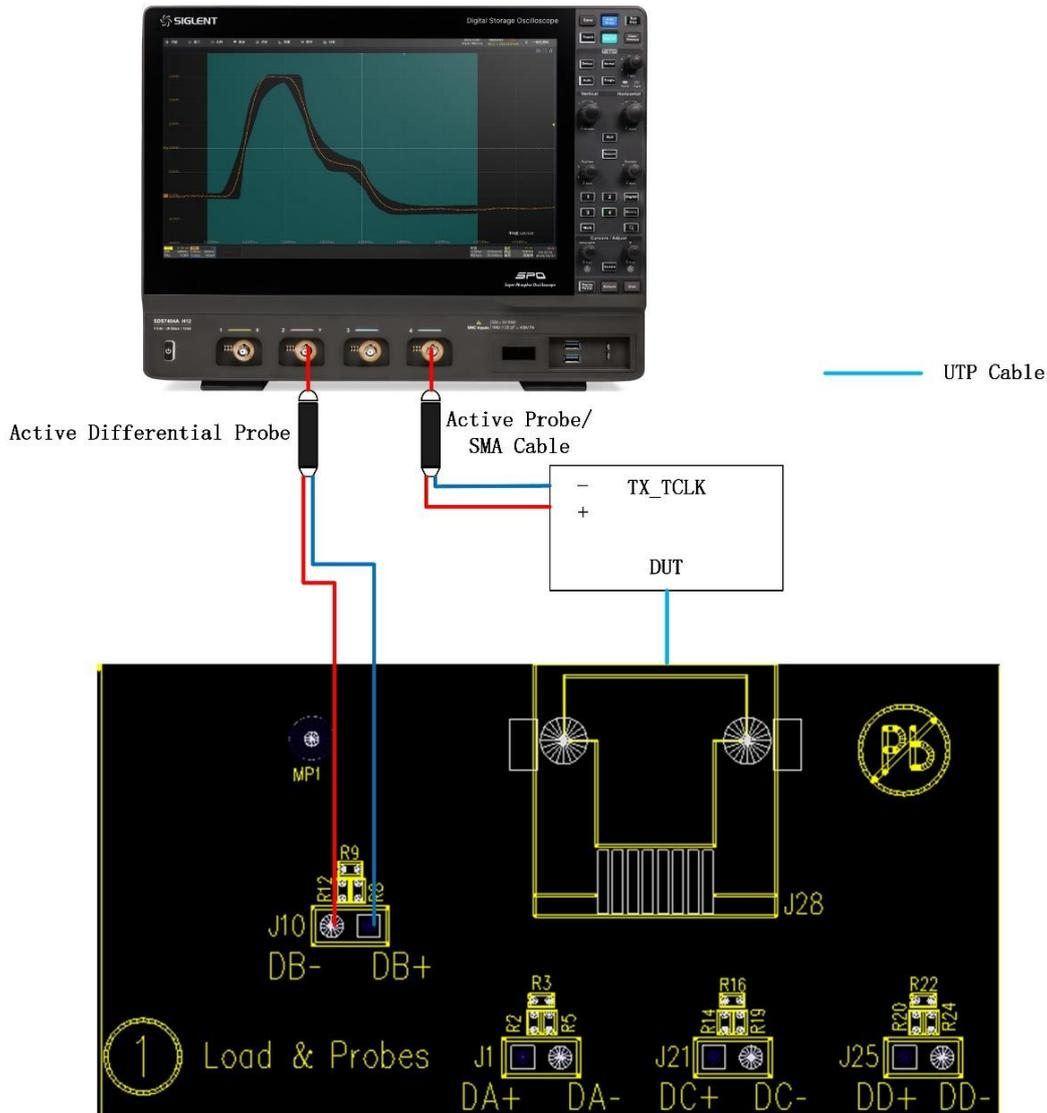

Figure 10-7 Connection of Section ① on test fixture for Slave Mode JTXOUT test
The connection with section ① on the test fixture which supports a differential active probe to probe the MDI signal, which is shown as Figure 10-7, the test step is as follows:
- (1) Use a short UTP cable to connect the DUT to J28 connector on section ① of the test fixture.
- (2) Use an active differential probe to probe test point (J1, J10, J21, J25) on section ① of the test fixture according to the signal pair being tested {(DA+, DA-), (DB+, DB-), (DC+, DC-), (DD+, DD-)}. Ensure correct polarity of the probe head.
- (3) Connect the DUT's TX_TCLK to one input channel of the oscilloscope by using an active probe or a SMA cable.